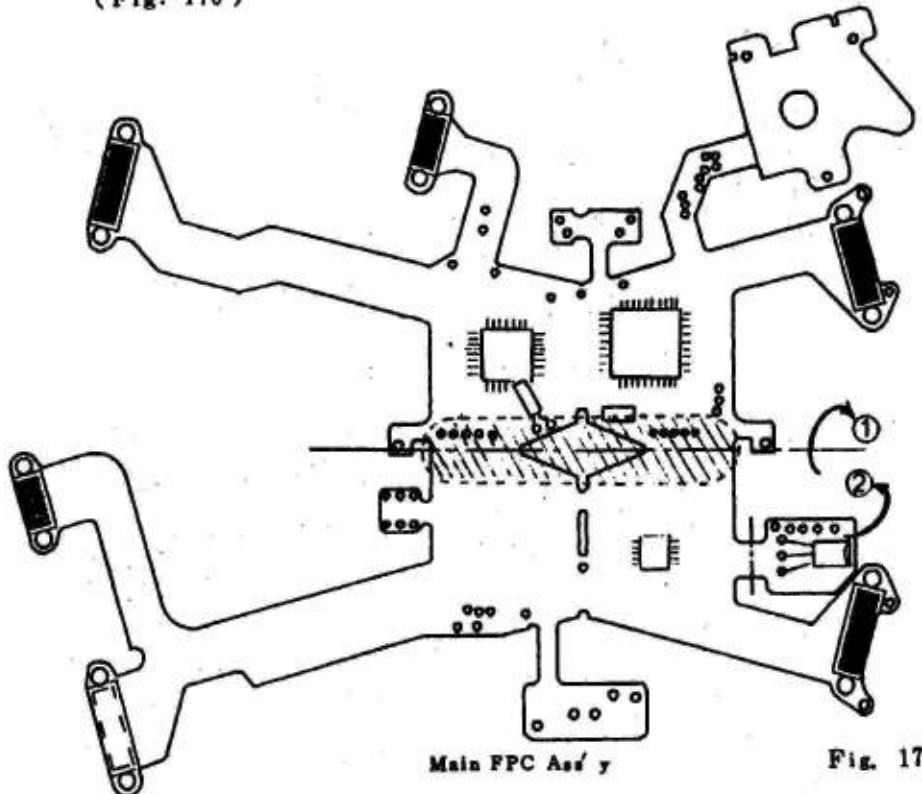

Fig. 176
Before installing a new Main FPC Ass'y, be sure to perform bending in the direction of the arrows in the order of ① to ②. (Fig. 176)